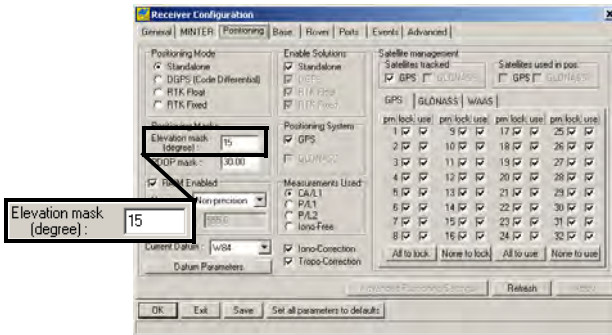

Figure 3-34. Configure Receiver Positioning – Elevation Mask
9. For the Base receiver, click the **Base** tab and set the following parameters (Figure 3-34 on page 3-37), then click **Apply**.